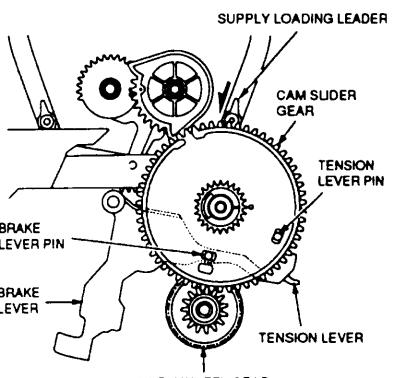

Fig 11.
- Attach the WORM WHEEL GEAR as shown in Fig 11.
- Place the CAM SLIDER GEAR on the shaft and adjust the position of the BRAKE LEVER and TENSION LEVER so that both pins appear through the holes on the CAM SLIDER GEAR as shown in Fig 11.